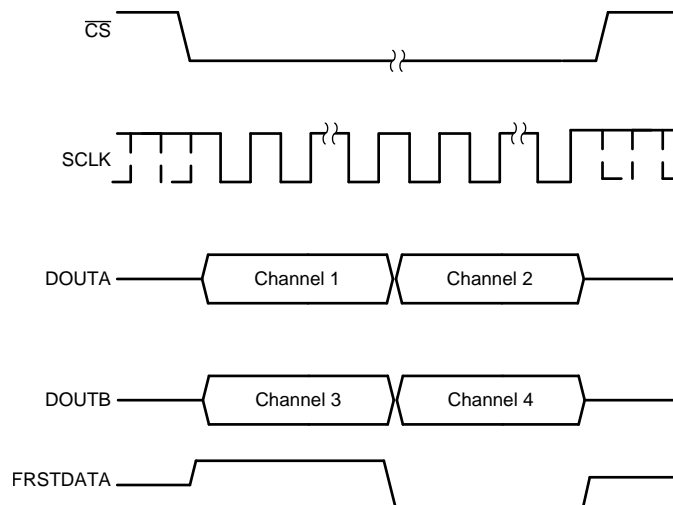

Figure 70. Data Read Back in the Serial Interface Using Both DOUTA and DOUTB Timing Diagram
- In order to minimize the time for the data read operation in serial mode, both DOUTA and DOUTB can be used to read data out of the device. In this case, the conversion results from the first set of channels (channels 1-2 for the ADS8584S) appear on DOUTA and the conversion results from the second set of channels (channels 3-4 for the ADS8584S) appear first on DOUTB. To read the data for all channels, provide a total of $16 \times 2 = 32$ SCLK cycles for the ADS8584S. This entire data frame can be created within a single \overline{CS} pulse or each group of 16 SCLK cycles can be individually framed by the \overline{CS} signal. Figure 70 shows an example timing diagram.